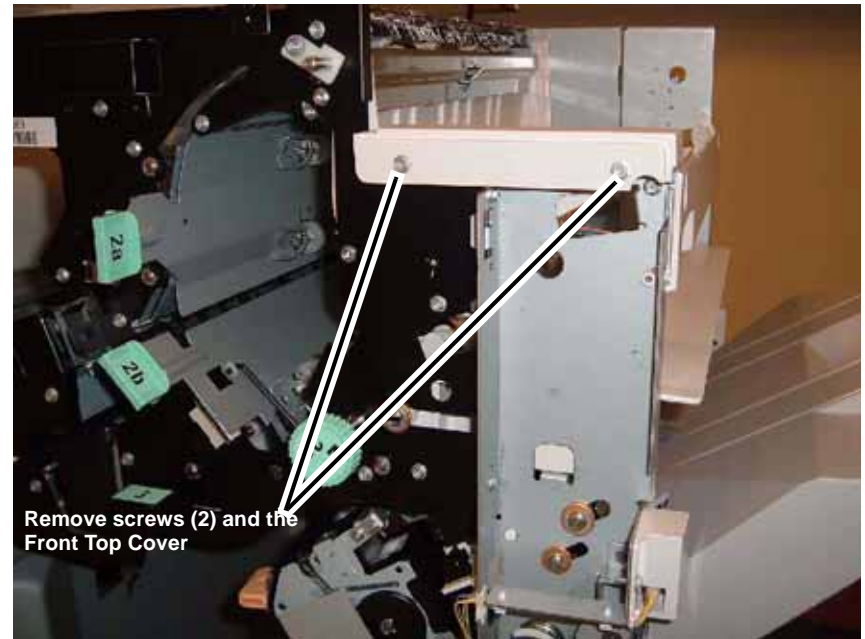

Figure 1 Removing the Front Top Cover
3. Remove Front Top Cover (Figure 1).